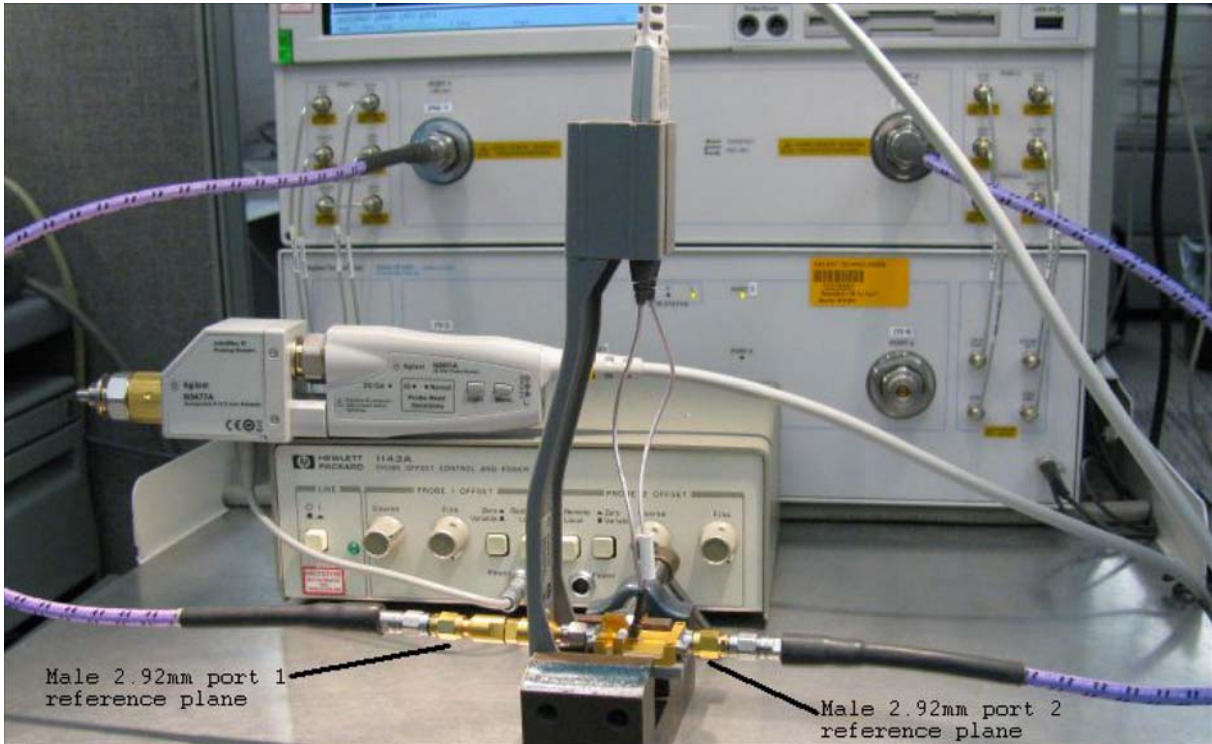

Figure 55 Setup for measuring “Vin” of probe
- 1 Calibrate the PNA to the two male 2.92 mm connectors (connectors can be seen in Figure 55) using the N4692A-00F ECal module (or equivalent 2.92 mm cal kit).
- 3 Connect the 1250-1749 adapter and N5443A PV fixture assembly to the calibrated ports of the PNA as shown in Figure 55. A small bench vise is useful to hold PV fixture steady.